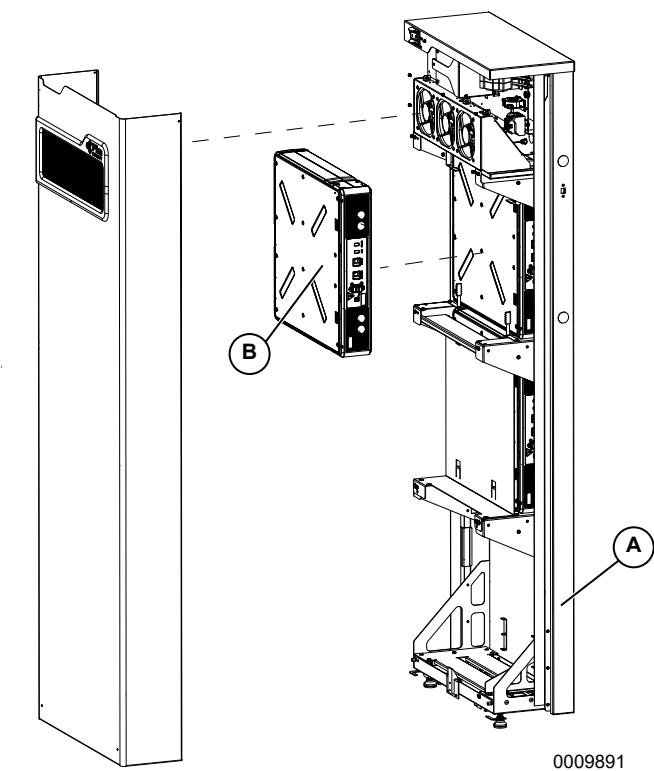

Figure 2-1. Serial Number Location
Refer to Figure 2-1 to locate serial numbers for the unit (A) and the individual battery modules (B). Record this information in Table 1: Important Information on the inside front cover of this manual so it is available if the tags are lost or damaged. When ordering parts or requesting assistance, you may be asked to provide this information.